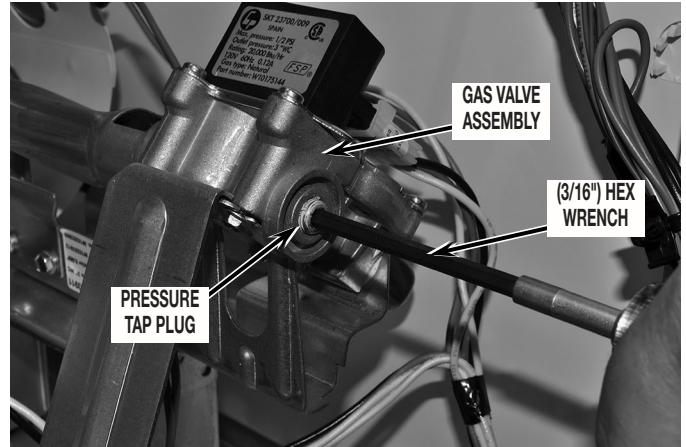

FIGURE 1
- Remove pressure tap plug from valve body using a 3/16" hex wrench. See Figure 1.